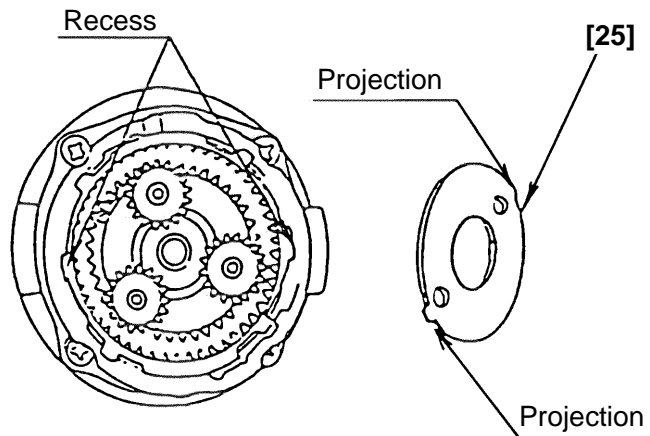

Fig.10
- (iii) Install the Washer (B) [25] in the Rear Case [17] with the projection of the Washer (B) [25] engaged with the recess in the Rear Case [17], and turn the Washer (B) [25] clockwise until it can turn no further. (See Fig. 10.)